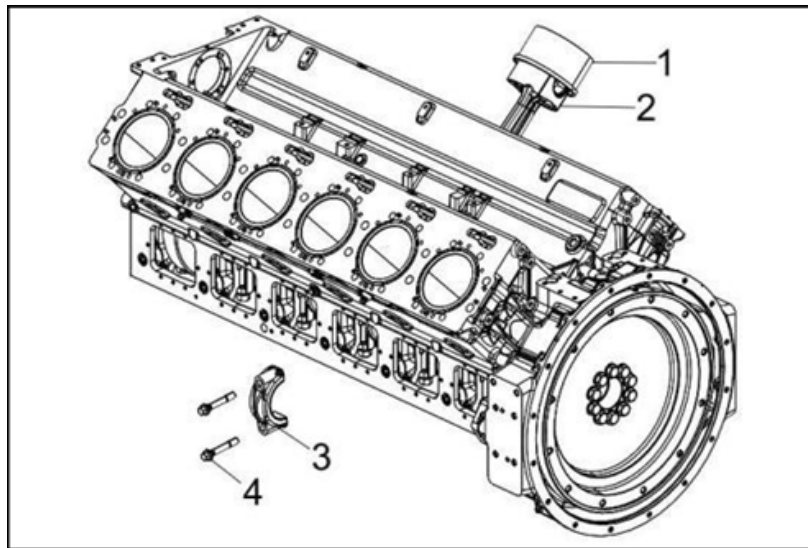

Figure 145.
3. Using a piston ring compressor (Figure 145, item 1), compress the piston rings.
5. Lower the mobile coupling (Figure 145, item 2) until the connecting rod big end and its half-bearing are in place on the crank pin.
6. Reinstall the connecting rod cap (Figure 145, item 3). Fit the connecting rod bolts (Figure 145, item 4) and fully engage the cap (turn the crankshaft to facilitate fitting of bolts).
7. Tighten the connecting rod bolts (Figure 145, item 4) in two steps: